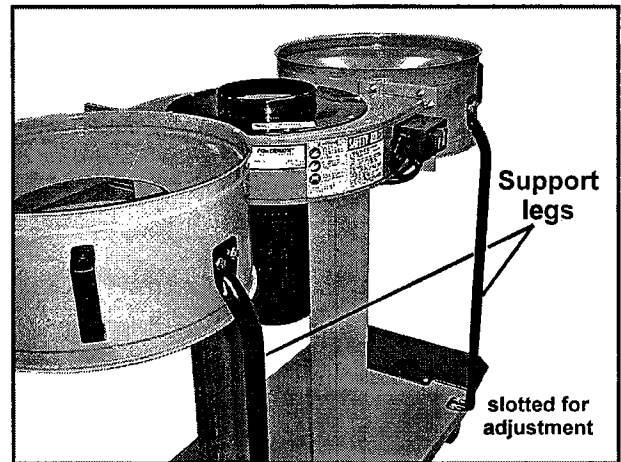

FIGURE 9
7. Attach two of the support legs to the front of the machine. See Figure 9. The bottom of the support leg is slotted and mounts to the pre-tapped holes in the base with two screws and two flat washers. Do not tighten yet.